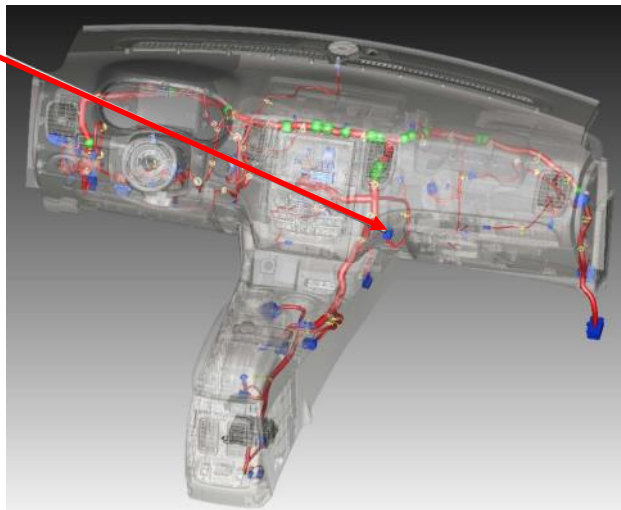

Figure 1
The 2018-2020 Durango has a "Gateway" module connected to the OBDII connector. The module is located in the underdash in the front passenger area (see Figure 1). The C-BOBe data link harness T's into an 8-pin and 12-pin connector on this gateway module.
2. Locate the Gateway module in the location shown in Figure 1.